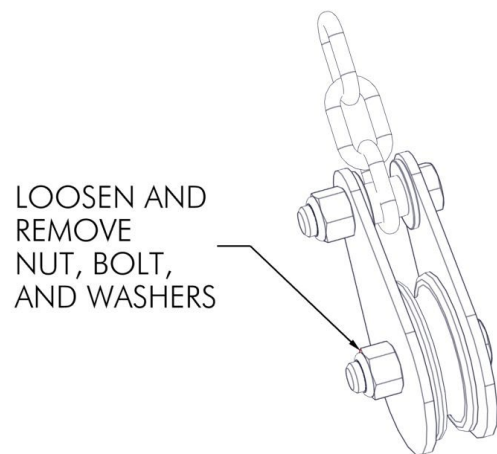

FIGURE 4.5
- LOOSEN AND REMOVE THE NUT, BOLT, AND WASHERS (END WITHOUT CHAIN ATTACHED) ON THE 2" PULLEY ASSEMBLY (FIGURE 4.5). INSERT THE CABLE AND REPLACE HARDWARE. TIGHTEN TO REMOVE EXCESS PLAY IN PULLEY (FIGURE 4.6).